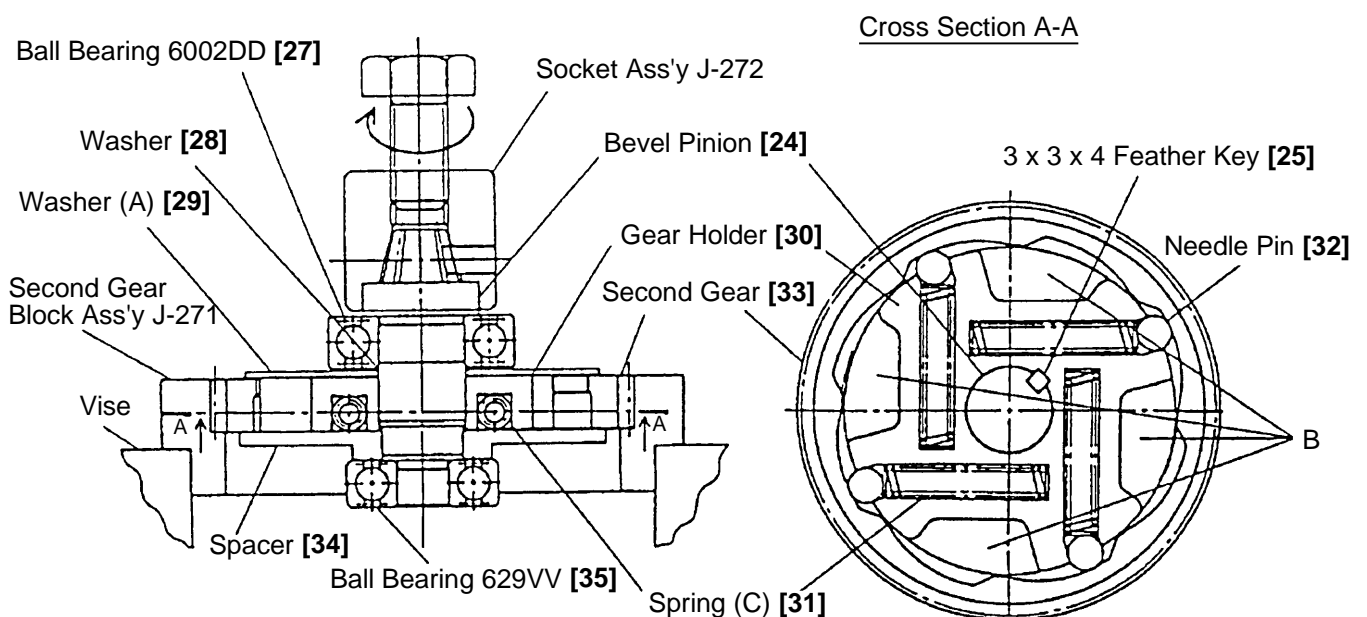

Fig. 20
Next, install the Second Gear [33] on the outer circumference of the Gear Holder and place the Needle Pins [32] without inclination as indicated in Fig. 20, then press in the Springs (C) [31]. Fill the spaces "B" in Fig. 20 with No. 29 power tool grease, 2 g for each (8 g in total) and press in the Spacer [34] and then Ball Bearing 629VV [35].